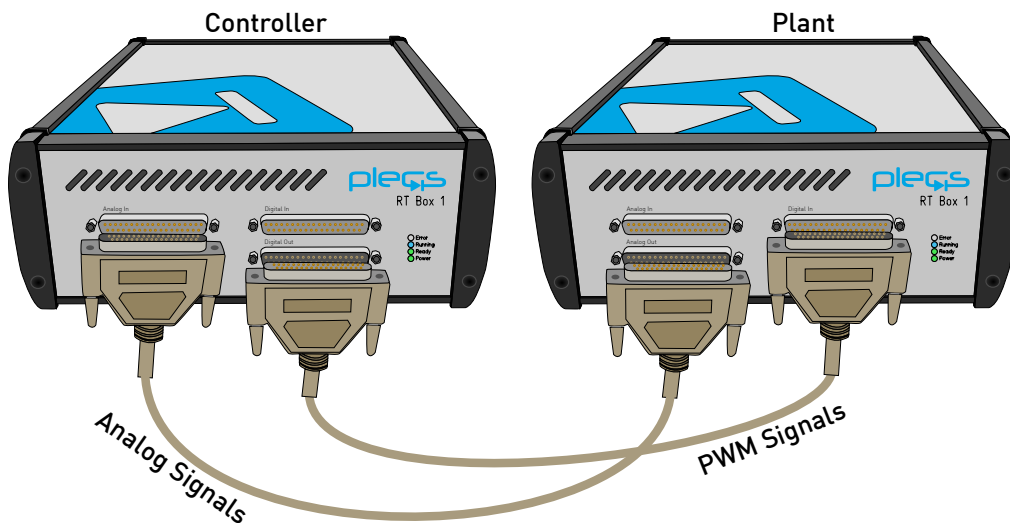

Figure 4: Loopback cable connection for the virtual prototyping setup
- 7 Connect the corresponding digital and analog I/O ports with a DSub cable as shown in Figure 4.